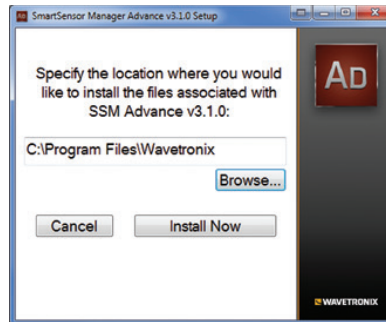

Figure 3.2 – Location Installation
- 7 Select an installation location. The default location provided is normally “C:\Program Files\Wavetronix.” Click **Browse** to choose another location (see Figure 3.2).